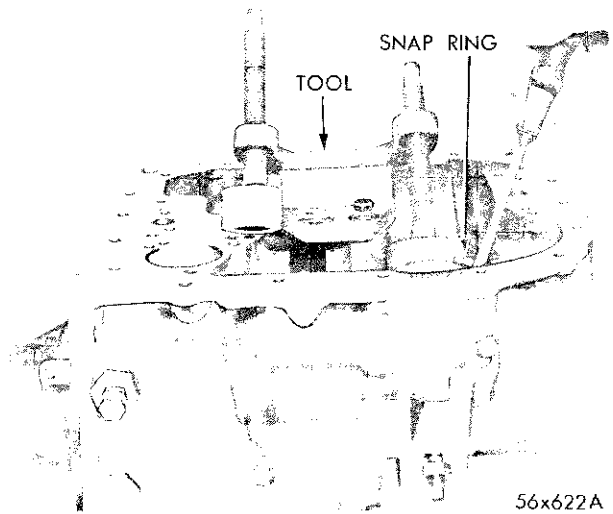

Fig. 48—Removal and Installation of Low-Reverse Servo Piston Spring Retainer Snap Ring
- (1) Install Tool C-3529 or C-3289 (modified) and depress the reverse servo piston retainer to permit the removal of the snap ring with a screwdriver (Fig. 48).
- (2) Remove the tool from the case.